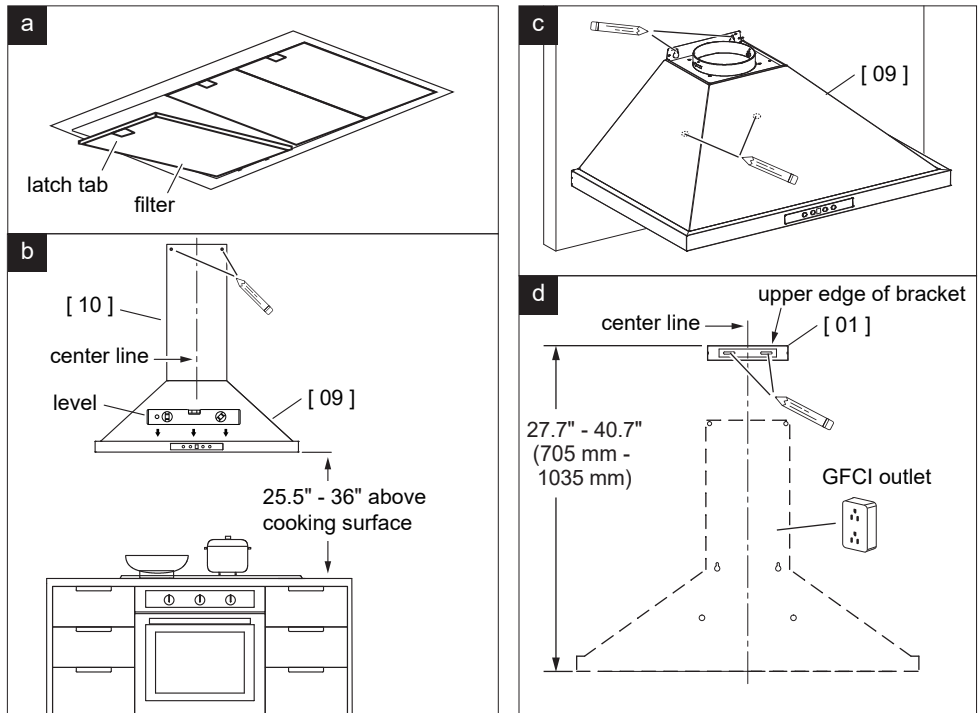

Fig 2
1. Remove the grease filters from the **Range Hood [09]** by pulling down the latch tabs and tilting filters downward to remove. (Fig 2.a)
2. Position the **Range Hood [09]** to the wall and adjust it with the level. (Fig 2.b)
3. Mark the screw holes on the wall as figure shows. Two holes at the top of **Range Hood [09]**, two holes from the inside of the it. (Fig 2.c)
4. Hold the **Range Hood [09]** still and install the **Lower Flue [10]** to it. Mark the screw holes at the top of the **Lower Flue [10]** on the wall as figure shows. Then remove the hood and flue. (Fig 2.b)
5. Draw a center line between the screw holes and up to the ceiling. (Fig 2.b)
6. Center the **Chimney Mounting Bracket [01]** with the center line and 27.7" - 40.7" from the bottom of **Range Hood [09]** to the upper edge of the bracket. Mark the screw holes on the wall as figure shows. Remove the bracket. (Fig 2.d)
7. Make sure there is a **GFCI outlet** installed to the wall where it will be covered by the **Lower Flue [10]**. (Fig 2.d)